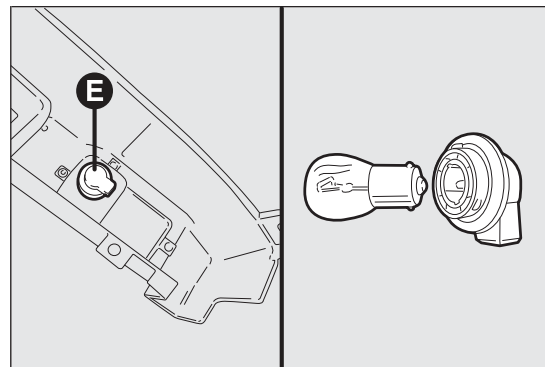

fig. 203
- ❑ turn bulb holder E anticlockwise (1/8 of a turn), remove the bayonet-fitted bulb by pushing gently and turning anticlockwise, then replace it fig. 203.